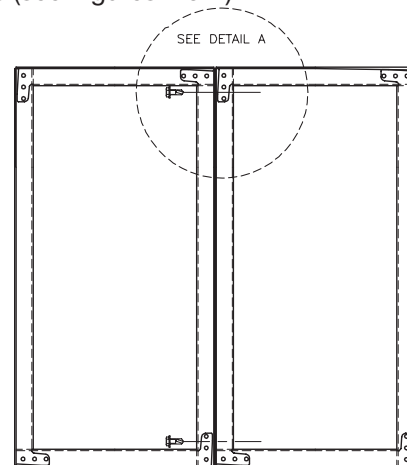

Figure 1
3) The damper sections must be attached together with #10 x 3/4 in. (19mm) max. sheet metal screws, 1/4 in. (6mm) diameter nuts and bolts, tack or spot welds, or 3/16 in. (4mm) diameter steel pop rivets. Attachments must be spaced a maximum of 12 in. (305mm) on centers and a maximum of 2 in. (51mm) from corners. Attachments must be made on front face and back face (air entering and air exiting side) of damper sections (see Figures 1 & 2).